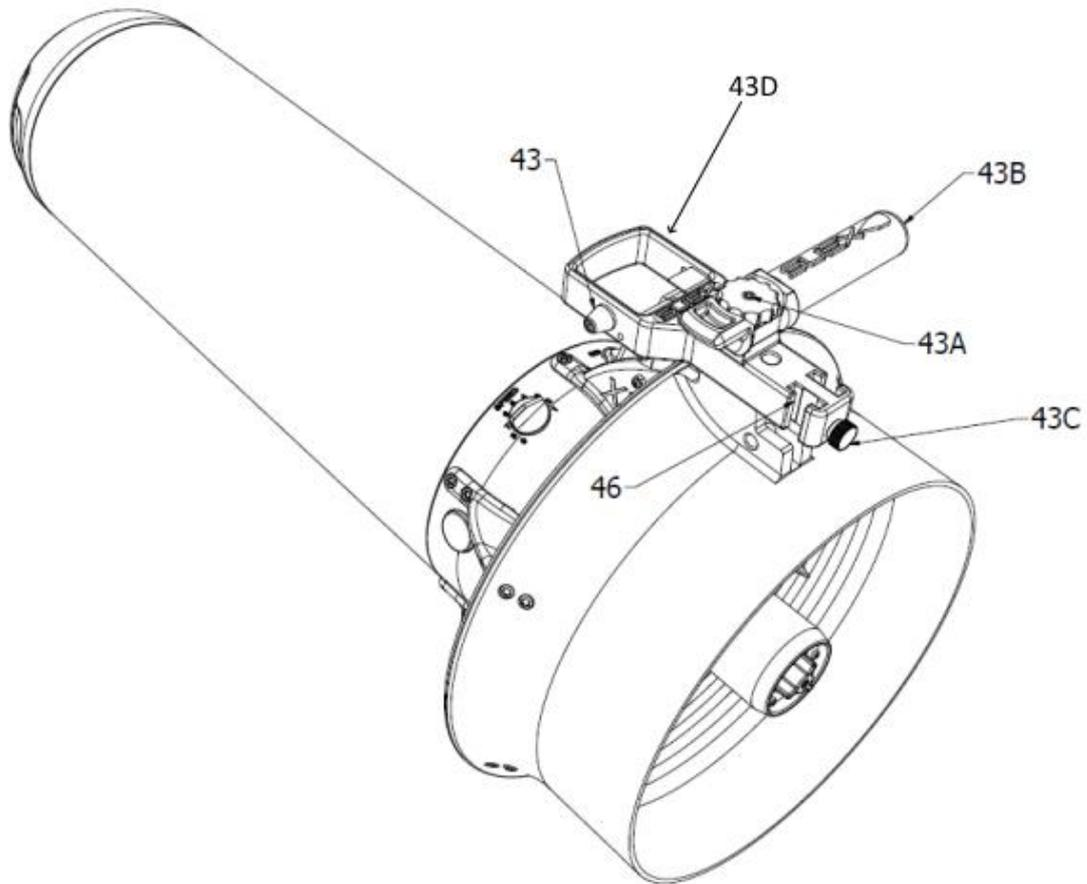

Fig.7
In the control device (fig. 7) we find: the trigger (43D), a fixing knob (43A) and a relative knob locking screw, a handle (43B), an accessory fixing knob (43C), two seats for accessories (46) and cruise control (43).
As for use, the handle can be positioned on the right (as in Fig.7) or on the left.
The knob cruise control (43) (see fig.7), must only be used under the diver's maximum control. The knob, trigger or DPV ignition switch must be accessible at all times to avoid any type of collision or driver dragging risks in hazardous areas.